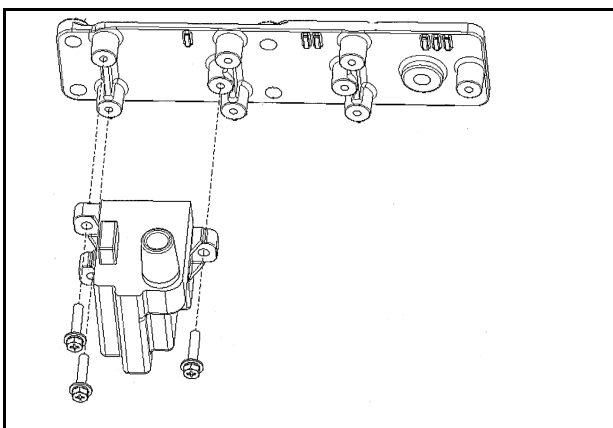

Fig. 4 - Removing IGNITION COIL
1. Remove three bolts and remove ignition coil Fig.4.